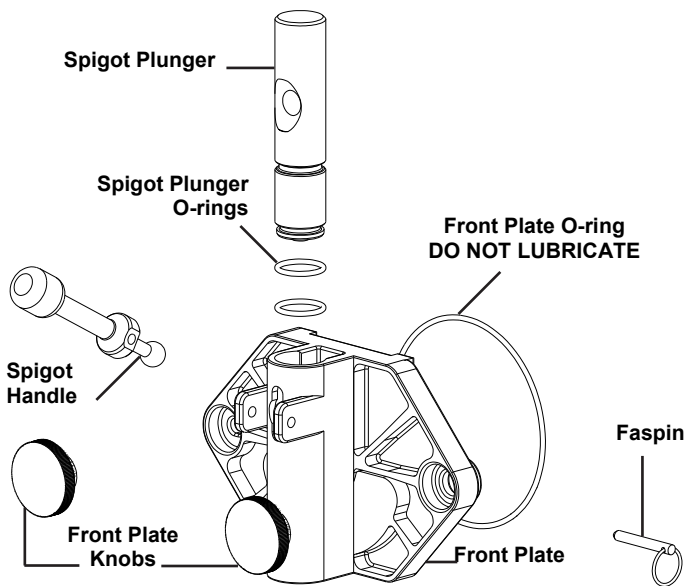

Fig. 7
5. Remove the front plate by turning the black plastic knobs in a counterclockwise direction (Fig. 7). Disassemble the front plate in the following manner: